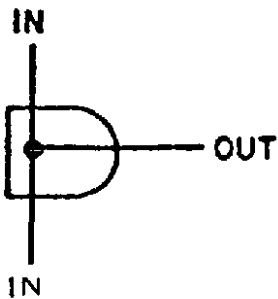

Figure 4-3. Dot AND Symbol
**4-12. Dot AND.** (See Figure 4-3). When the outputs of two or more logic circuits are connected together to perform an AND function, the logic is conveyed by a dot AND symbol.